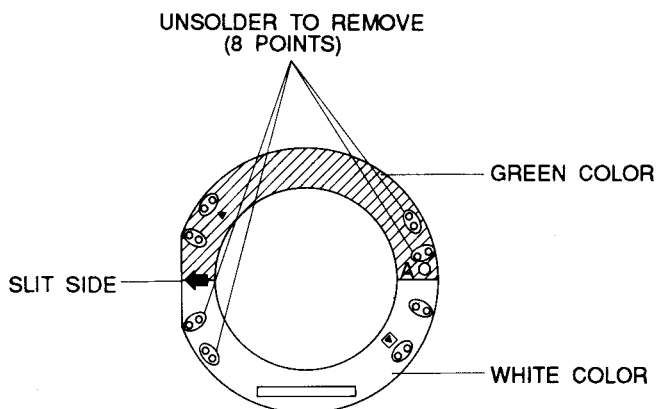

Fig. 17 PWB Upper Cylinder Top View
1. Remove two (2) screws ① from the upper cylinder ass'y ③ and remove the upper cylinder ass'y ③ from the cylinder ass'y.
2. Unsolder the PWB-Upper cylinder ② from the upper cylinder ass'y ③. (See Fig. 17)